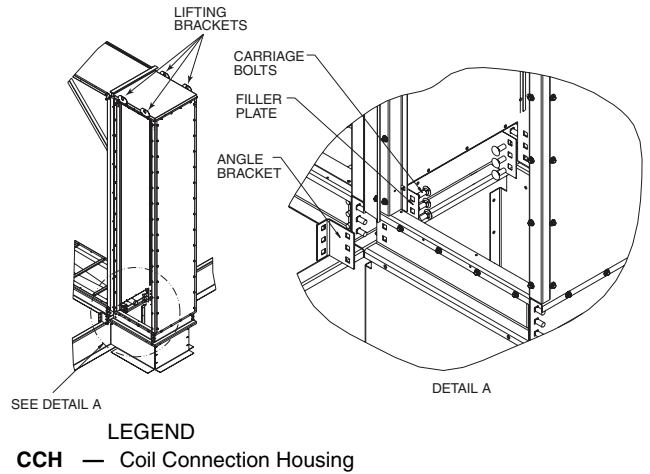

Fig. 59 — Positioning CCH
10. a. Using the lifting brackets (shown in Fig. 59), lift the CCH into the vertical position and remove the shipping brackets (shown in Fig. 53).
b. Using the lifting brackets (shown in Fig. 59) place the CCH on top of the CCH curb. Once in position there should be about a 2-in. gap between the unit wall and the CCH frame covered by the flashing.
11. Attach the angle bracket using the lifting lug nuts and washers; do not fully tighten. **DO NOT USE THIS PART FOR LIFTING THE UNIT.** See Fig. 59, Detail A.
12. Place the filler plate inside the CCH baserail, align the square holes with the pattern on the base rail and the angle bracket, then insert the 3 carriage bolts provided through the plate, base rail and angle bracket. Fully tighten with provided washers and nuts. See Fig. 59, Detail A.
13. Finish tightening the angle bracket to the unit base rail. See Fig. 59, Detail A.